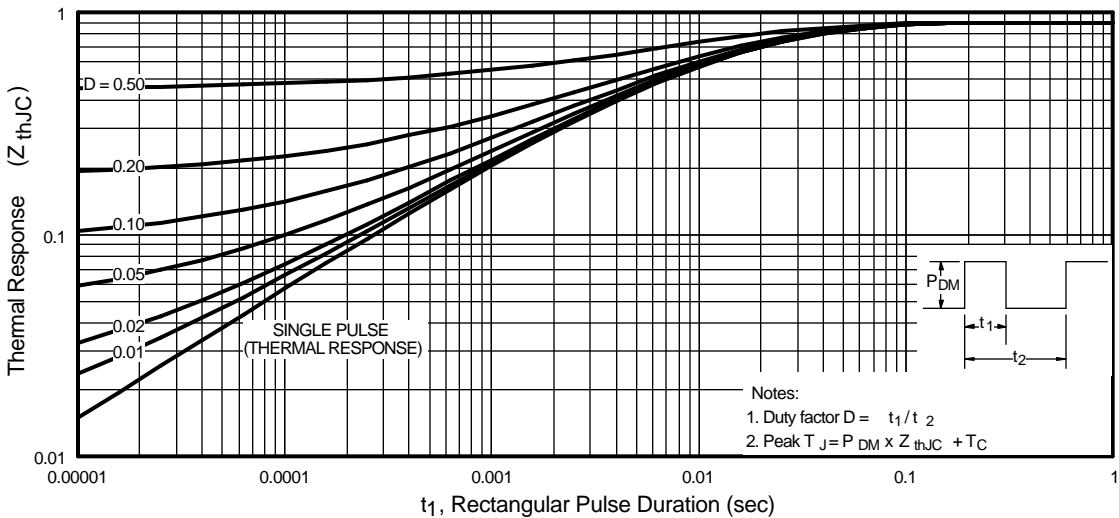

Fig 11. Maximum Effective Transient Thermal Impedance, Junction-to-Case
- ① Repetitive rating; pulse width limited by max. junction temperature. (See fig. 11)
- ② $V_{DD} = 25V$, starting $T_J = 25^\circ\text{C}$, $L = 320\mu H$